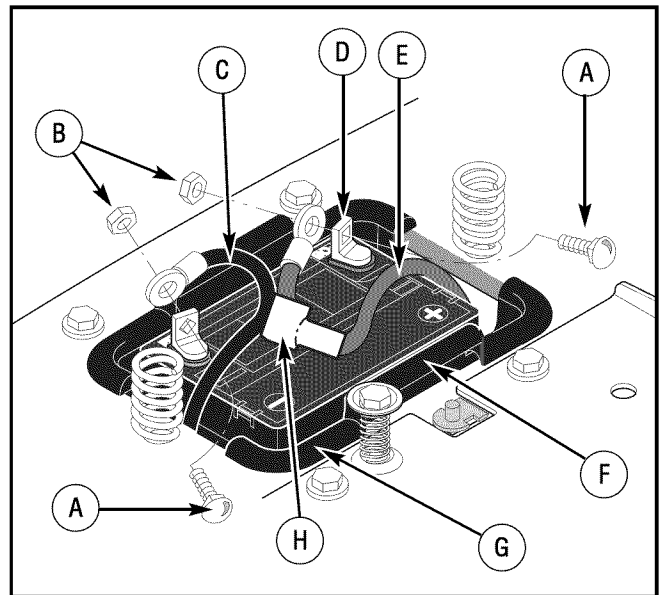

Figure 27: Battery
1. Disconnect the **black cable** from the **negative (-) terminal** (Figure 27).
5. Fasten the **black cable** to the **negative (-) terminal** with the fasteners as shown (Figure 27).